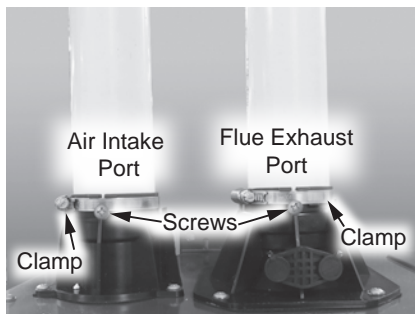

Figure 211 - Flue exhaust port and intake air port location
**2** Locate the flue exhaust port and intake air port. See Figure 211.
**3** Remove the two (2) screws securing the intake air and exhaust piping to the ports. Place the screws aside in a safe place for reinstallation. See Figure 211.
See Figure 211.